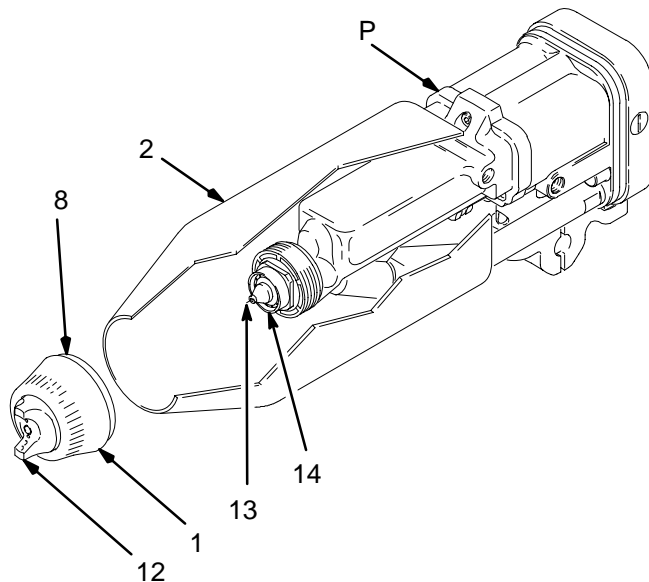

Fig. 20
2. Remove the air cap assembly (1, 12) and gun shroud (2). See Fig. 20.
3. Clean the fluid nozzle (14), shroud (2), and exterior of the gun (P) with a cloth dampened in a non-flammable cleaning fluid. Avoid getting any fluid into the air passages. Whenever possible, point the gun down while cleaning it.
4. If it appears that there is fluid inside the fluid nozzle (14) air passages, remove the gun from the line for servicing.
5. Clean the air cap (12) with the soft bristle brush and a compatible solvent or submerge the air cap in the solvent and wipe it clean.
6. Slide the shroud (2) onto the gun (P).
7. Carefully install the air cap (12). Be sure to insert the electrode (13) wire through the *center* air cap hole and do not bend the wire. Rotate the air cap horns to the desired position.
8. Make sure the o-ring (8) is in place on the retaining nut (1). Tighten the retaining nut (1) until the air cap is held firmly in place; you should not be able to rotate the air cap horns by hand.